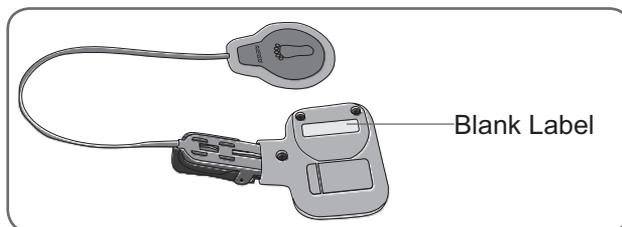

Figure 40: Label on the Gait Sensor for the System ID Number.
7. Locate the System ID Number on the NESS L300 carrying case (for example, A334). Write the number on the small label on the back of the new Gait Sensor. See Figure 40. This number identifies which system the sensor is registered to.